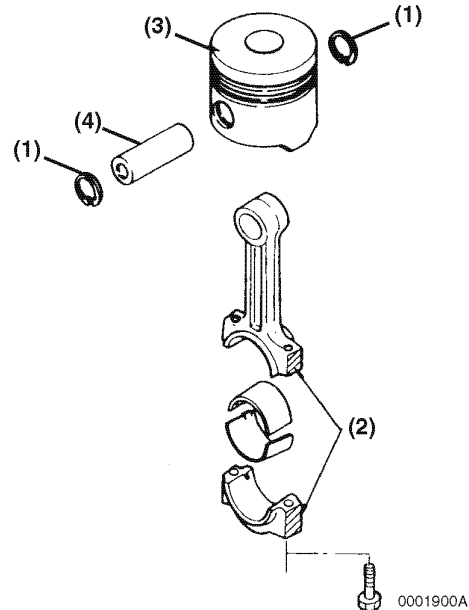

Figure 8-46
14. Remove the wrist pin circlips (Figure 8-46, (1)) from the piston.
15. Support the piston (Figure 8-46, (3)) and drive the wrist pin (Figure 8-46, (4)) from the piston. Use a soft-faced hammer and a suitable driving tool that has a smaller diameter than the inside diameter of the wrist pin bore. Remove the connecting rod (Figure 8-46, (2)) from the piston.